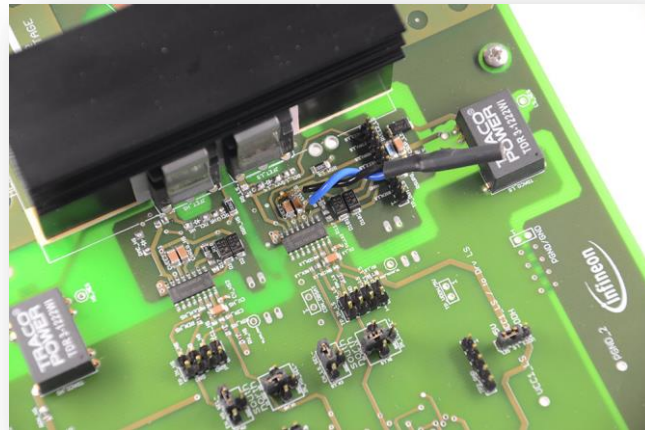

Figure 26 Probe holder at V_{Reg} capacitor
The reference potential for this signal is *VCC2* (please refer to the 1EDI30J12CL datasheet as well as to Figure 26). Disconnect all previously used probes from the board since they have used *GND* as reference potential.
- iv. Connect oscilloscope probes to JFDrv, MDrv, VReg (see Figure 26 & Figure 27)